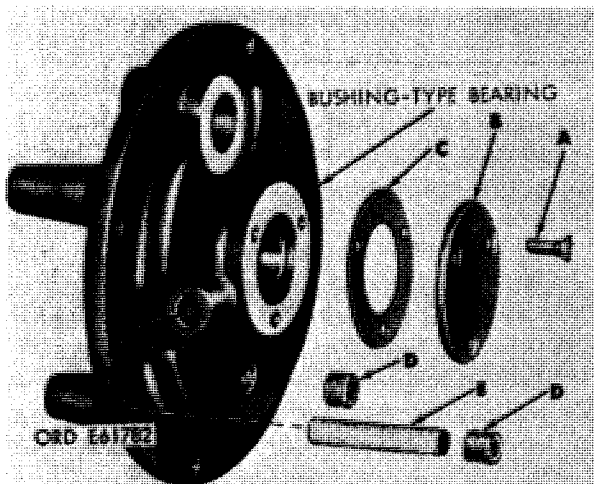

Figure 3-24. Disassembling or assembly commutator end housing assembly.
d. Remove three flat head screws (A, fig. 3-24) cover plate (B), and plate gasket (C). Discard gasket. Remove two hex-socket head plugs (D) and oil wick (E).